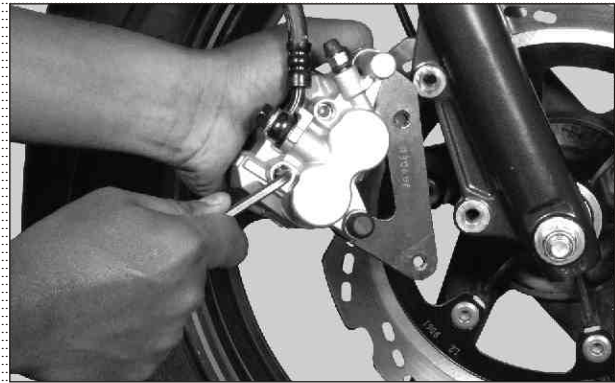

Fig. 2.68
- Loosen and take out pin hanger (2nos). (Fig. 2.68)